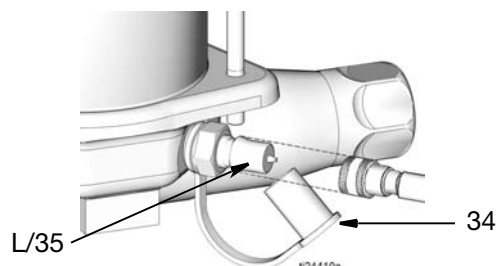

FIG. 4
1. Remove grease cap (34) (FIG. 4) from fill port (L) to access the fill stud (35).
2. Connect the quick connect fitting on the fill pump to the fill port (L) on the reservoir.
4. Disconnect the fill pump from the fill pump fill stud (35, FIG. 4).
5. Secure grease cap (34) over fill stud (35) (FIG. 4).